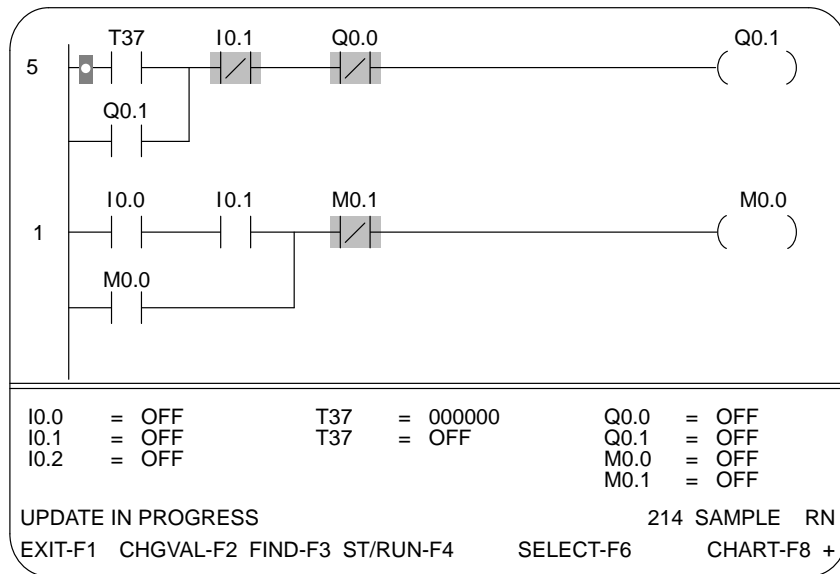

Figure C-18 Ladders and Chart Display
7. Press **ENTER-F8** to invoke the display. Your selections will appear as shown in Figure C-18.